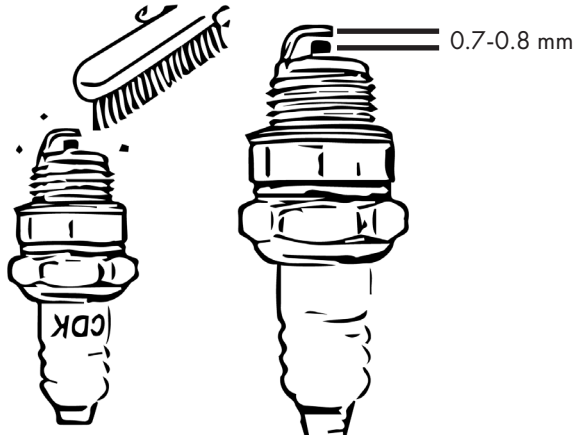

Figure 25
- Remove the deposits on the spark plug. See Fig. 25.
- Set the electrode gap to a target value of 0.7-0.8 mm. See Fig. 25.